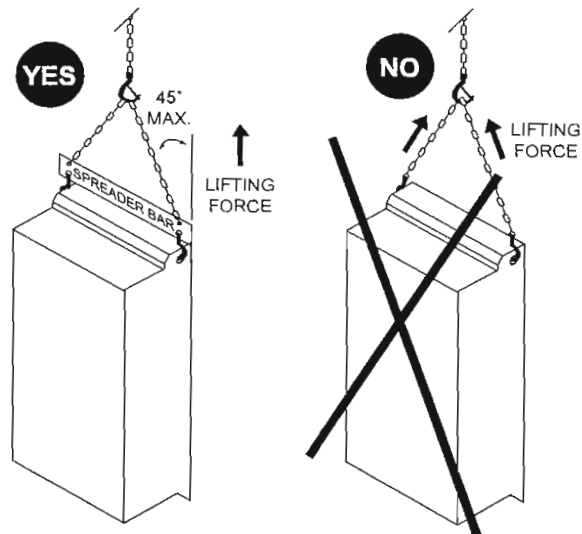

Figure 8: Hoisting Class 8839 ECONOFLEX Drive Controllers
Keep the area below any equipment being lifted clear of all personnel and property. Use the lifting method shown in Figure 8.
- Attach a spreader bar to the two top lifting holes on the drive controller back panel (see Figure 5 on page 25 for location of lifting holes) and hoist the controller with chains or straps. See Figure 8 for the proper hoisting method.